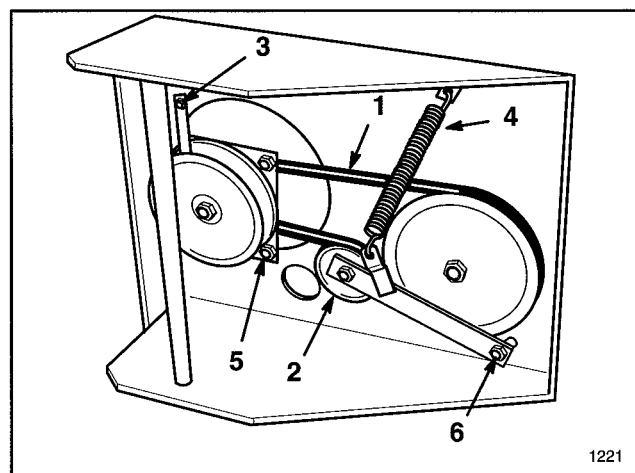

Figure 21
- Disconnect in-line wire connectors from wiring harness (Fig. 21).
- Remove left front engine mounting bolt securing clutch retainer to frame. Unhook retainer from clutch and remove retainer (Fig. 21).
4. Unhook tension spring from side of frame (Fig. 21).
7. Install belt around idler pulley (Fig. 21).
8. Torque pivot bolt to 35-40 ft-lb. Install tension spring between idler arm and frame bracket (Fig. 21).
1. To adjust clutch, tighten or loosen locknuts on flange studs (Fig. 21).